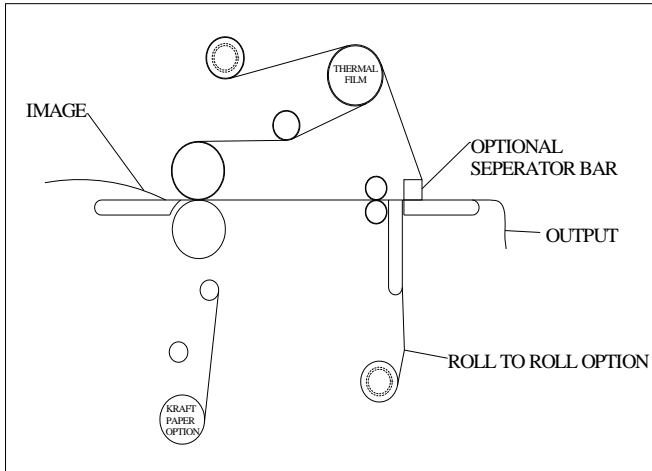

FIGURE 38
1. Load the laminator as illustrated in Fig. 38.